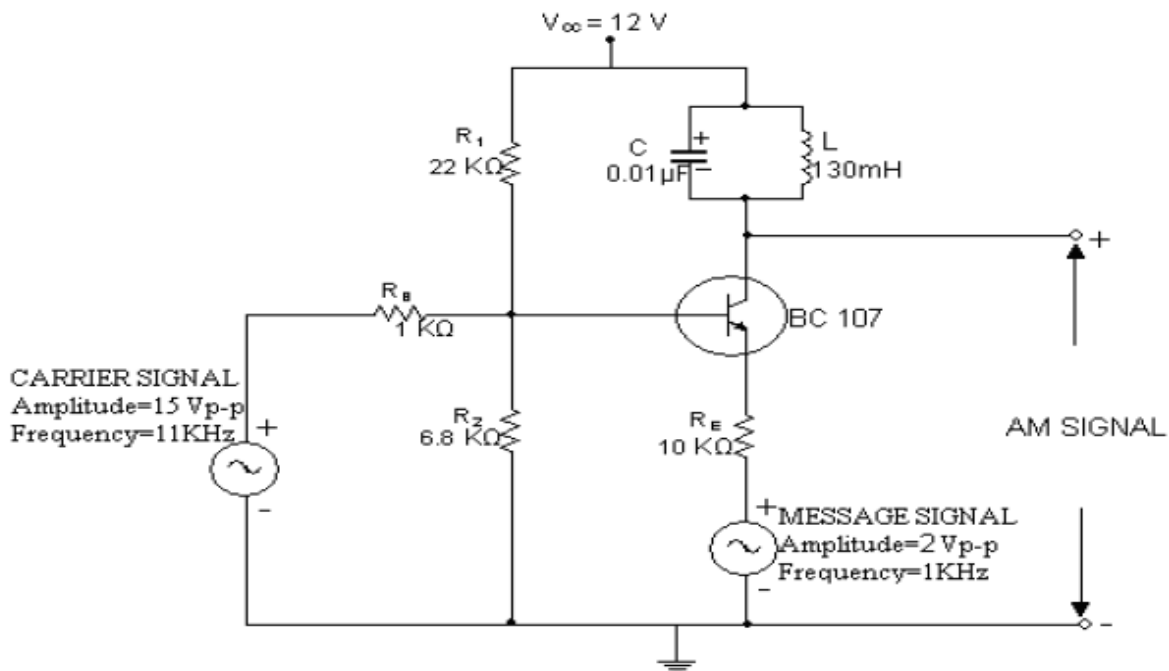

Figure 6: Circuit Diagram of Amplitude Modulation
1. Make the connection according to the circuit diagram shown in Figure 6.